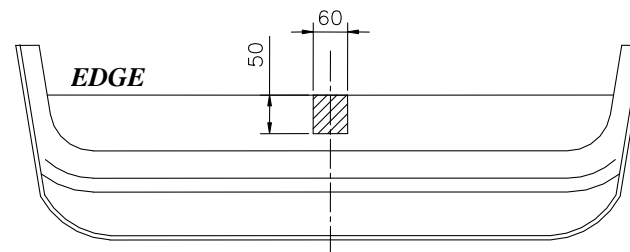

Fig. 2
4. Put the main bar of the towing hitch (pos. 1) to chassis members and fix it using bolts M12x40mm (pos. 7) through original holes in members. Elements (pos. 4) slide through holes in rear slice.
6. Assemble the bumper after cut out fragment according to figure 2.
7. Fix tow-ball (pos. 2) and socket plate (pos. 3) by bolts M12x75mm (pos. 5) and M12x70mm (pos. 6) from accessories.